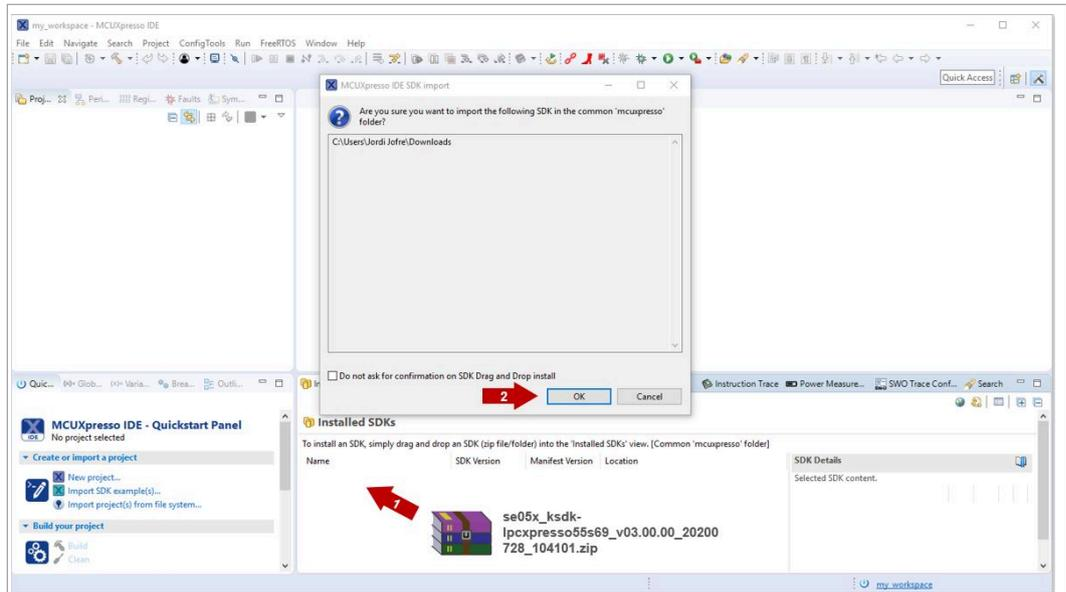

Figure 5. Import LPC55S69 board SDK into MCUXpresso environment
After downloading the LPC55S69 SDK, we need to install it into the MCUXpresso workspace. To install the SDK, (1) drag and drop the LPC55S69 SDK zip file in the **Installed SDKs** section in the bottom part of the MCUXpresso IDE and (2) click **OK** as shown in Figure 5:
Note: If there is not an SE05x orange label on top of the board image, MCUXpresso may be recognizing a board SDK with a higher version number, downloaded from MCUXpresso SDK Builder website. To access the most up-to-date and complete list of EdgeLock SE05x project examples, first you need to uninstall the SDK currently installed, and then repeat the process indicated in Figure 5